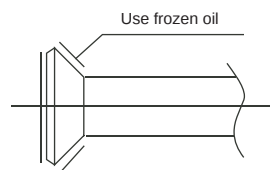

Fig. 8-1
- ① Bend the tubing in proper way. Don't harm them.
- ② Daub the surfaces of the flare pipe and the joint nuts with frozen oil, and wrench it for 3~4rounds with hands before fasten the flare nuts. (Refer to Fig.8-1)
- ③ Be sure to use two wrenches simultaneously when you connect or disconnect the pipes.